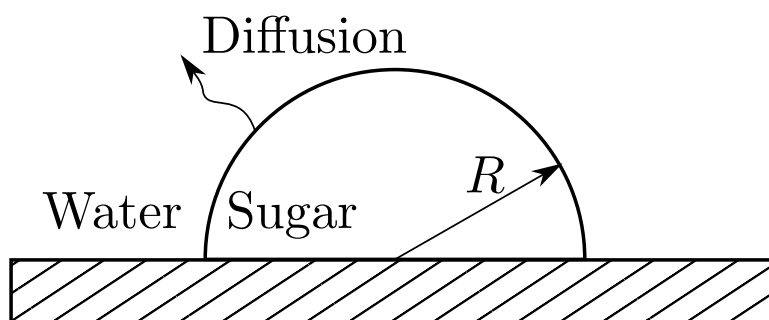

Figure 27: The lump of dissolving sugar.
- b) A hemispherical lump of sugar, initially of radius $R = 0.005 \text{ m}$, is dropped into a cup of tea, quickly coming to rest on the bottom of the cup as shown in Fig. 27. The sugar lump then slowly dissolves into the tea. The diffusion coefficient of sugar in tea is $4 \times 10^{-10} \text{ m}^2 \text{ s}^{-1}$. The saturation mole fraction of sugar in tea is 0.1 and the total molar density of the system is $c = 55 \times 10^3 \text{ mol m}^{-3}$.